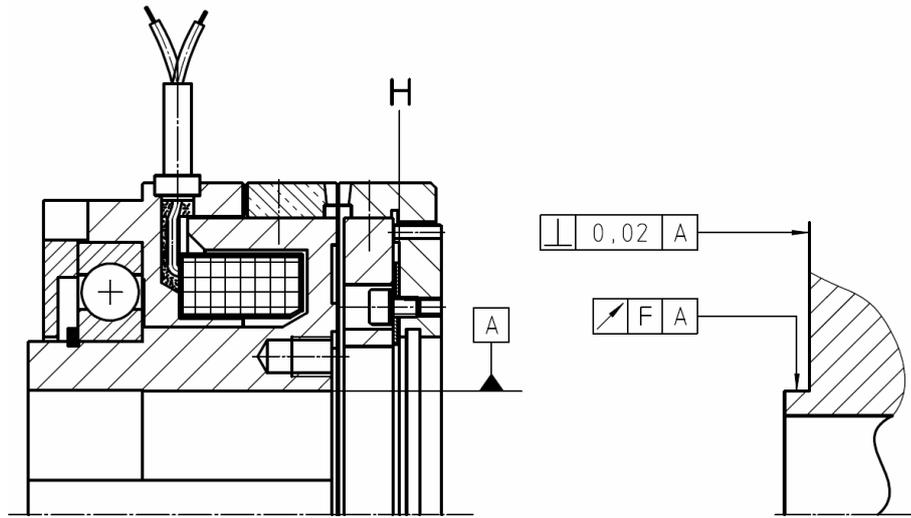

Figure 5: face "H" of the centering part
Make sure that the fixing pin and the ends of the threads do not protrude out of the front face " H " of the centering part (see fig. 5).
- The spacer sleeve (for setting the idle speed air gap) underneath the armature must be made of an antimagnetic material (see fig. 5).
i	Make sure that the fixing pin and the ends of the threads do not protrude out of the front face " H " of the centering part (see fig. 5).